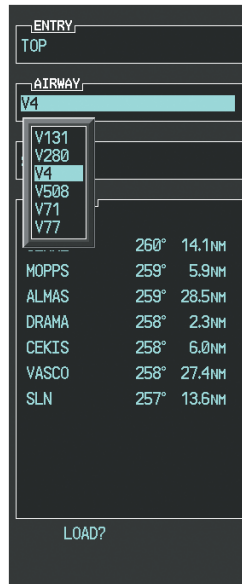

Figure 5-117 List of Available Airways for TOP
f) Press the **LD AIRWY** Softkey to display the list of available airways for TOP as seen in Figure 5-117.
g) Turn either **FMS** Knob to highlight V4 in the list as seen in Figure 5-117.